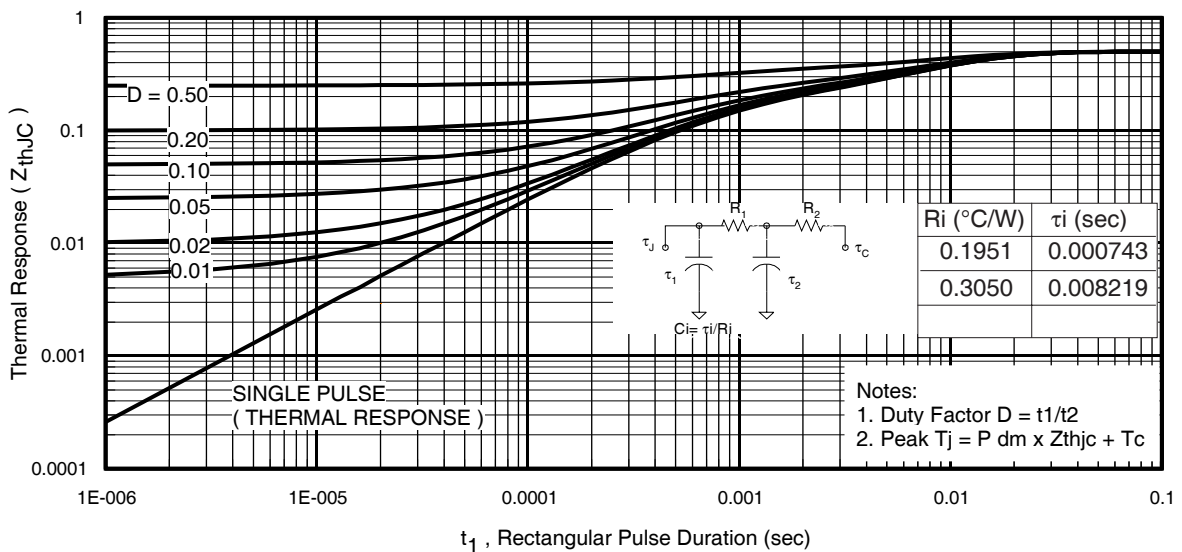
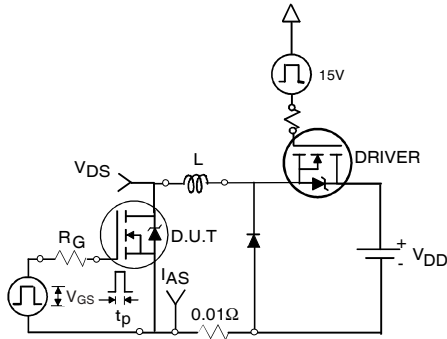

Fig 11. Maximum Effective Transient Thermal Impedance, Junction-to-Case
Fig 12a. Unclamped Inductive Test Circuit
- ① Repetitive rating; pulse width limited by max. junction temperature. (See fig. 11).
- ② Limited by T_{Jmax} , starting $T_J = 25^\circ\text{C}$, $L = 0.049mH$, $R_G = 25\Omega$, $I_{AS} = 160A$, $V_{GS} = 10V$. Part not recommended for use above this value.
- ③ Pulse width $\leq 1.0ms$; duty cycle $\leq 2\%$.
- ④ $C_{oss\text{ eff.}}$ is a fixed capacitance that gives the same charging time as C_{oss} while V_{DS} is rising from 0 to 80% V_{DSS} .
- ⑤ Limited by T_{Jmax} , see Fig.12a, 12b, 15, 16 for typical repetitive avalanche performance.
- ⑥ This value determined from sample failure population. 100% tested to this value in production.
- ⑦ This is applied to D²Pak, when mounted on 1" square PCB (FR-4 or G-10 Material). For recommended footprint and soldering techniques refer to application note #AN-994.
- ⑧ R_θ is measured at T_J of approximately 90°C .
3. Equation below based on circuit and waveforms shown in Figures 12a, 12b.
$Z_{thJC}(D, t_{av})$ = Transient thermal resistance, see figure 11)